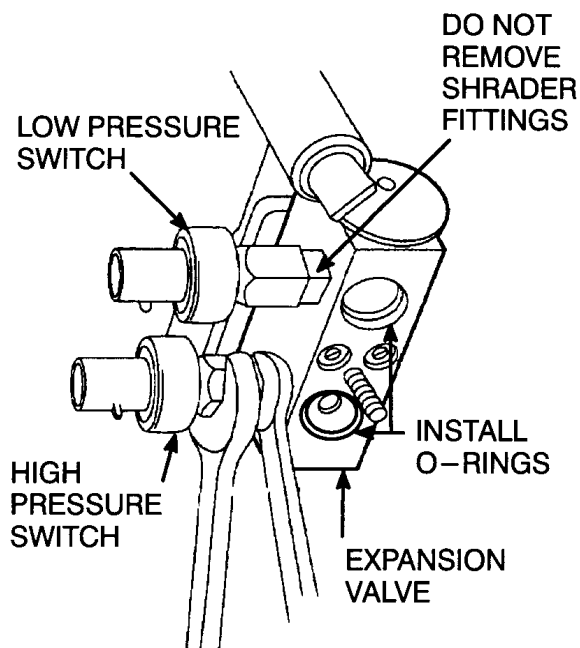

Figure 7 Use Backup Wrench When Removing/Installing Pressure Switches
6. If the low and high pressure switches are being removed from the expansion valve, use a backup wrench to prevent the Schrader valves from being loosened or removed (Figure 7).
CAUTION – To prevent damage to the threads in the expansion valve, use two wrenches to tighten both pressure cut-off switches (Figure 7).
3. Install the high and low pressure cut-off switches (Figure 7) (if removed).
4. Install new O-rings, lubricated with MINERAL OIL, onto the high and low pressure refrigerant line fittings before inserting the fittings into the expansion valve (Figure 7).